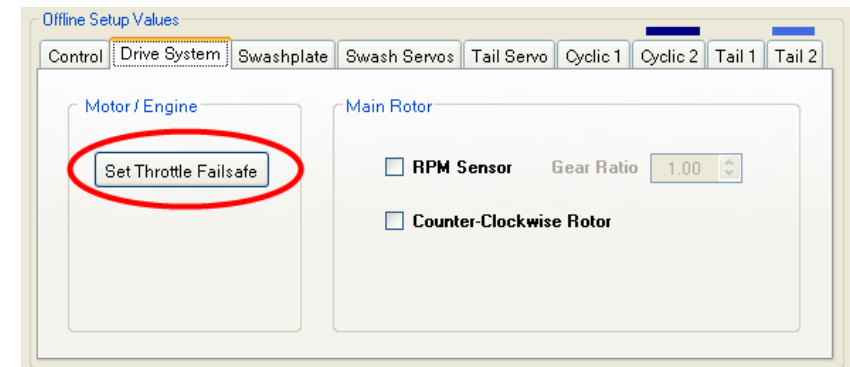

Figure 11.3 – Setting the Throttle Failsafe
- Now make sure the helicopter's motor is off and then reconnect the SK720 to your PC. On the *Drive System* tab (see Figure 11.3 below), click *Set Throttle Failsafe* and follow the instructions that appear.